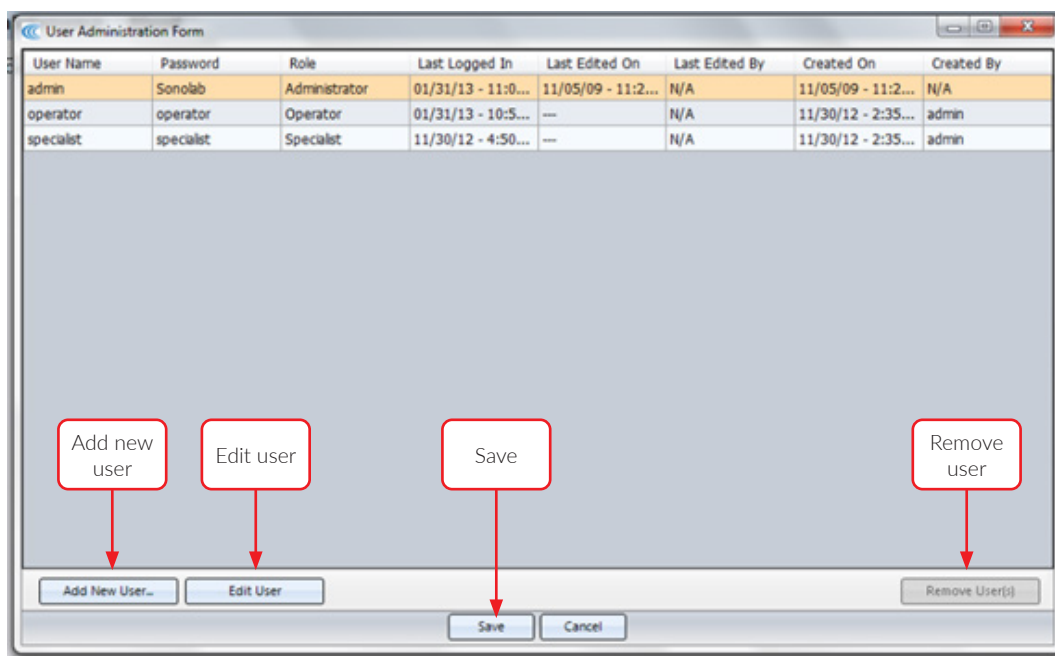

Figure 6.6 User Administration Screen
The User Administration window will appear. (See **Figure 6.6**)
- Click “Remove User(s)” button from the User Administration Form. (See **Figure 6.6**)